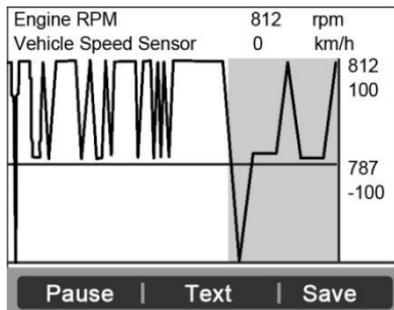

Figure 6-12
- If the **“Graphics”** on the bottom appears when a PID is highlighted, graphic information is available. Select **Graphics** to view graph. (Figure 6-12). PID name, current value, maximum and minimum values are displayed on the screen.